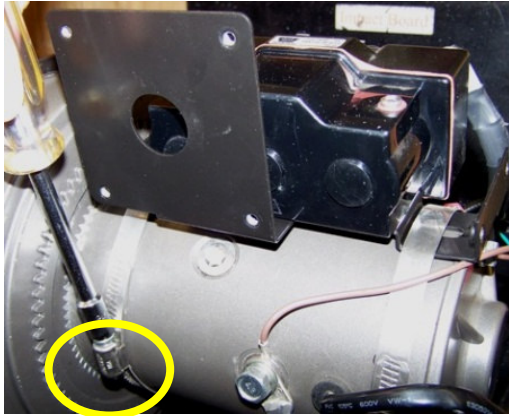

Figure 13
Step 12: Reinstall the contactor with bracket on the motor using the two existing mounting clamps. (Figures 13 & 14)